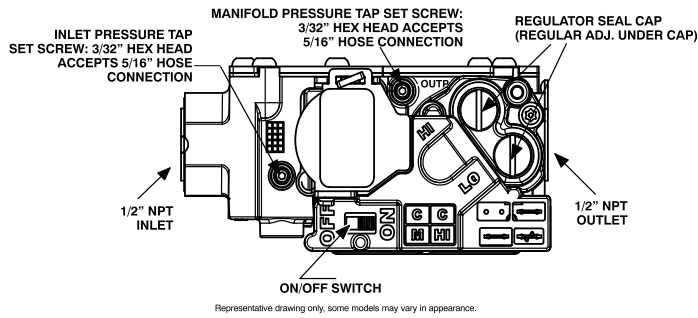

Fig. 64 – Gas Valve with Tower Pressure Ports
- Adjust manifold pressure to obtain low fire input rate. See Fig. 64.
- Remove regulator adjustment cap from low heat gas valve pressure regulator and turn low-heat adjusting screw (3/16 or smaller flat-tipped screwdriver) counterclockwise (out) to decrease input rate or clockwise (in) to increase input rate. See Fig. 64.
- Adjust manifold pressure to obtain high fire input rate See Fig. 64.
- Remove regulator adjustment cap from high-heat gas valve pressure regulator and turn high heat adjusting screw (3/16-in. or smaller flat-tipped screwdriver) counterclockwise (out) to decrease input rate or clockwise (in) to increase input rate. See Fig. 64.